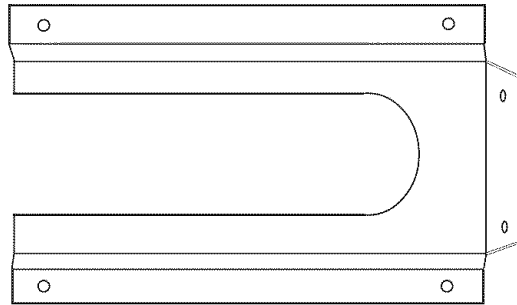
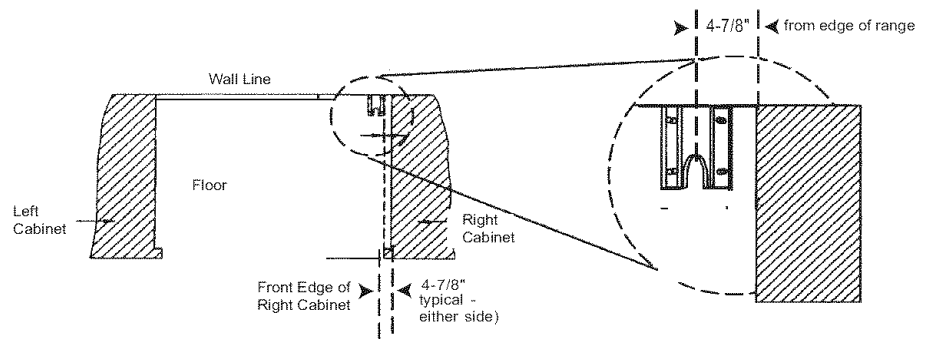

Figure 6: Mounting Anti-tip Bracket
Figure 7: Placement of Anti-Tip Bracket (Top View)
For 30" and 36" Dual Fuel Ranges (Figure 6 and Figure 7)
1. Place bracket on floor in position shown in Figure 7 (Bracket may be used in either corner of the installation area).